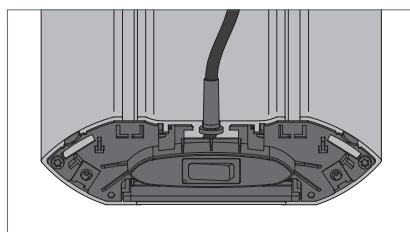

Fig. 2: Positioning the grommet.
- Guide the connecting cable through the cable bushing and slide the grommet into the cable bushing, see Fig. 2.